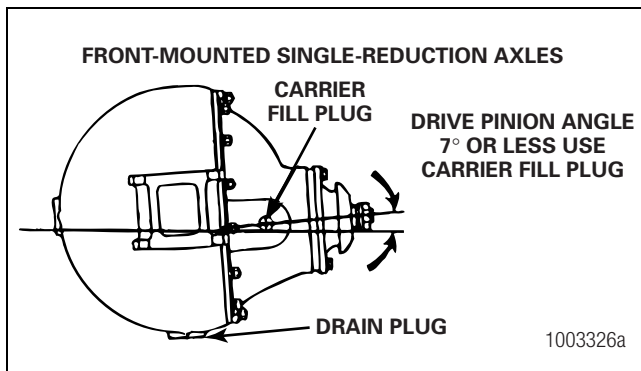

**Figure 8.10**
1. If the fill plug is only in the axle housing bowl, use that fill plug. Do not use the temperature sending unit hole. Figure 8.10.
3. Check the oil level. The level must be even with the bottom of the fill plug hole. Figure 8.10.